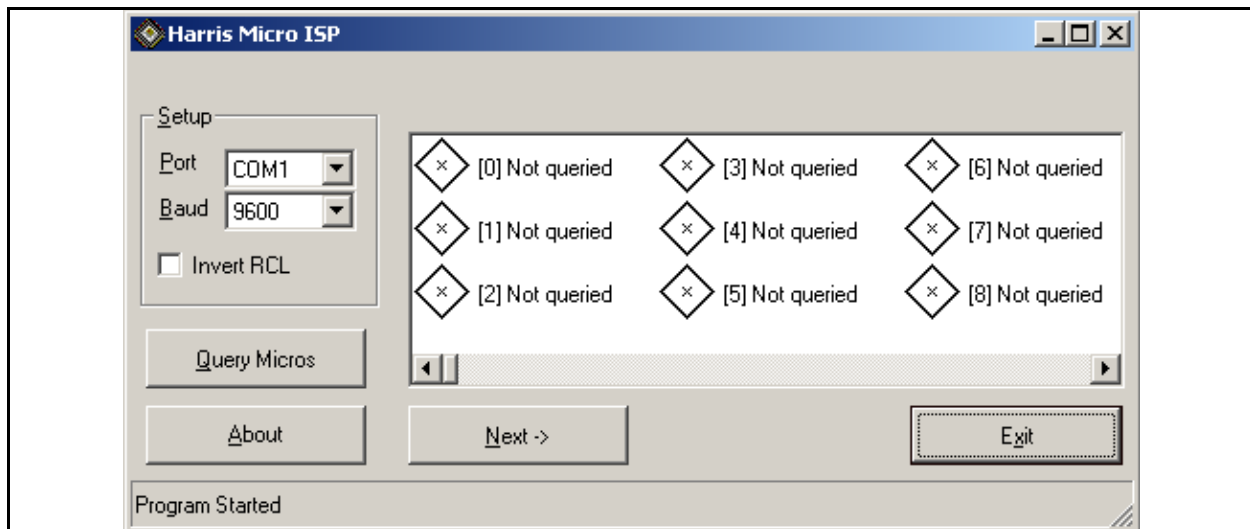

Figure 6-9 ISP Opening Screen
- STEP 3** Run the “Harris ISP.exe” program. The window shown in Figure 6-9 should open.